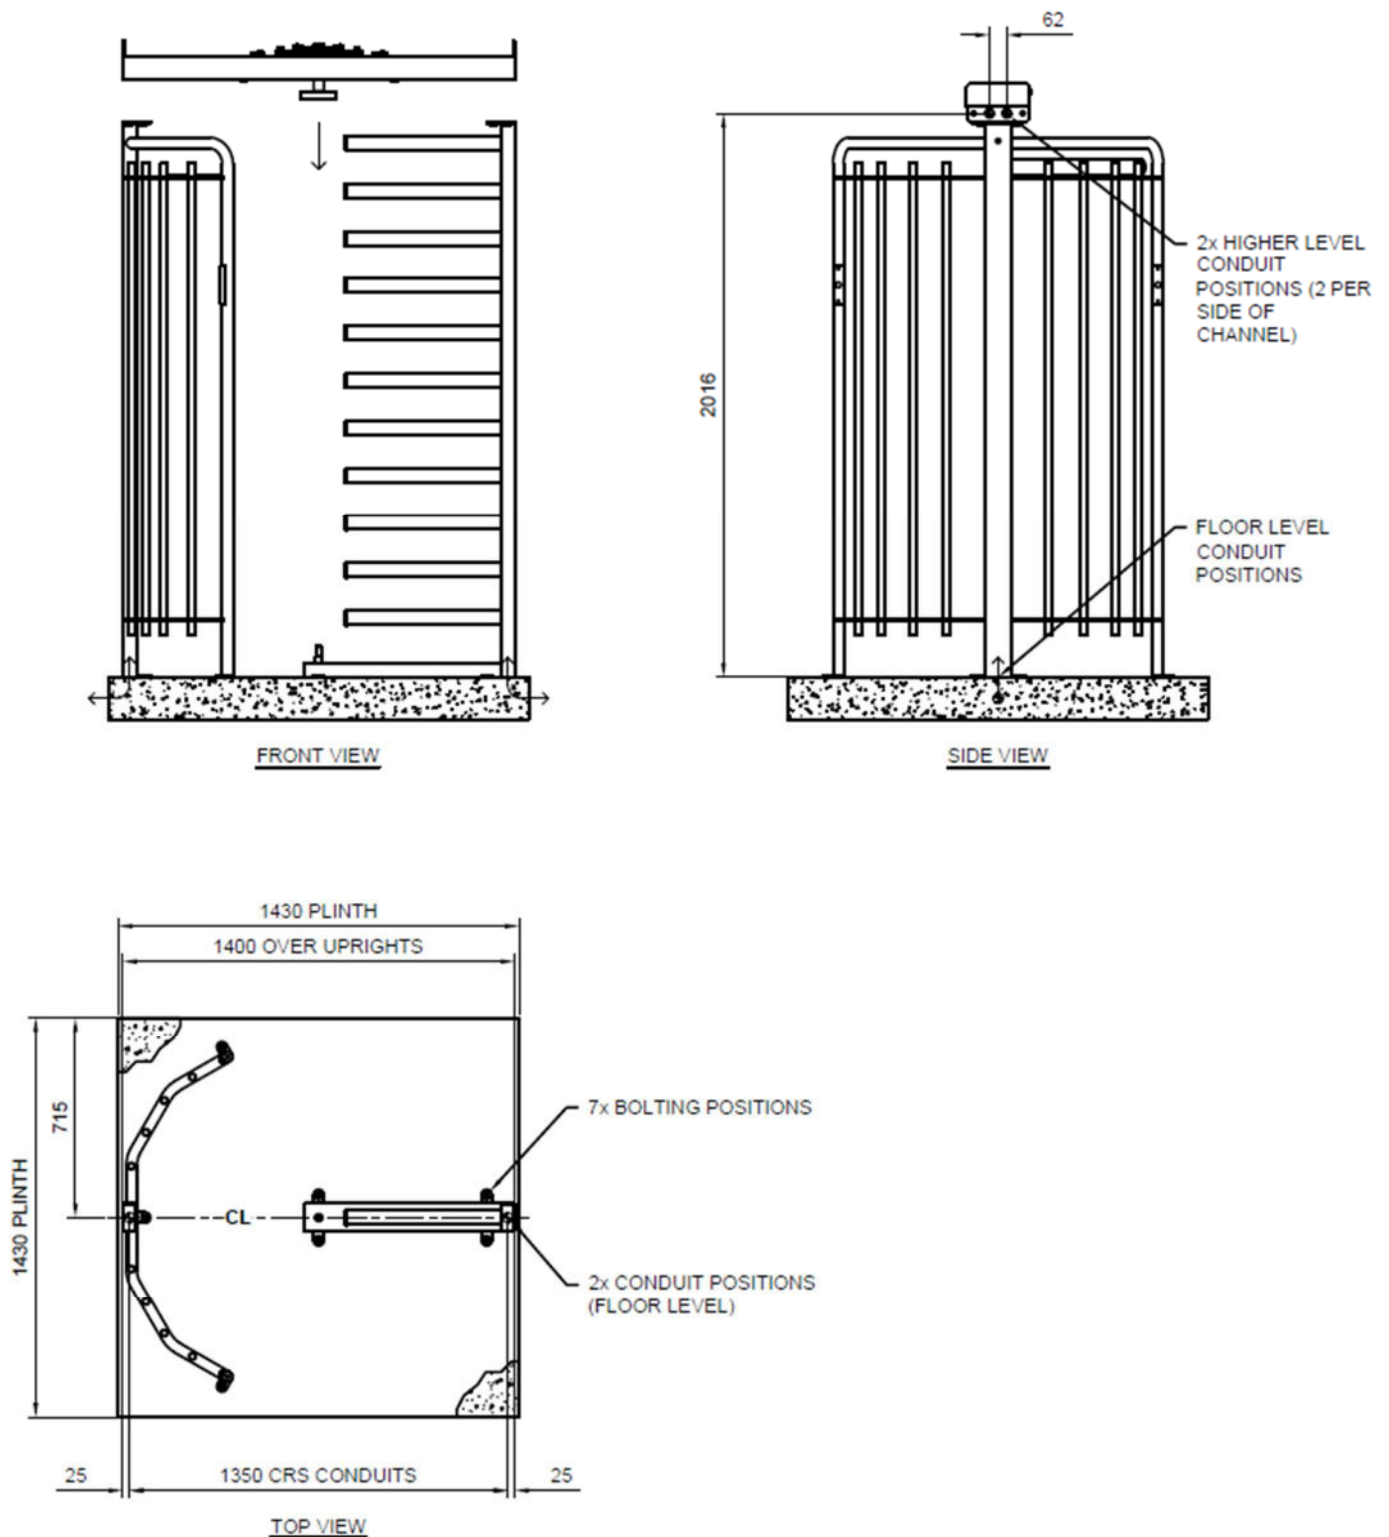

Figure 13: Single turnstile assembly
- Single Turnstile Specification: 1430mm long x 1430mm wide x 125mm deep, 20MPa strength concrete. (See Figure 13)